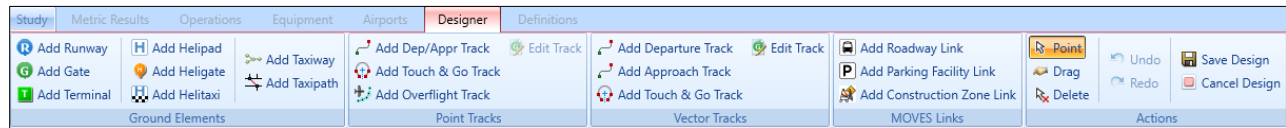

Figure 7. Airports Designer Tab
1. Click on the *Designer* tab (Figure 7). AEDT will load all of the airport layout features.
2. In the *Point Tracks* ribbon group, click *Add Dep/Appr Track* (Figure 7). A pencil icon replaces the mouse cursor.